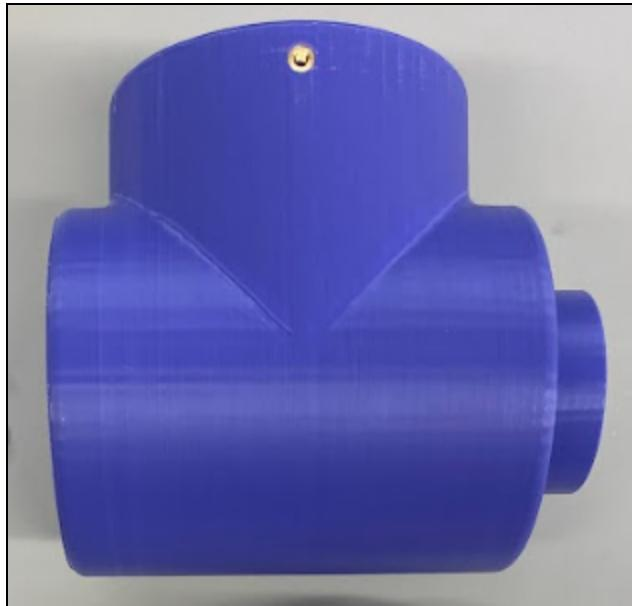

Figure 23: Heat set inserts for J3 Cylinder
- One of the M4 Heat set inserts fully installed can be seen below in Figure 23.